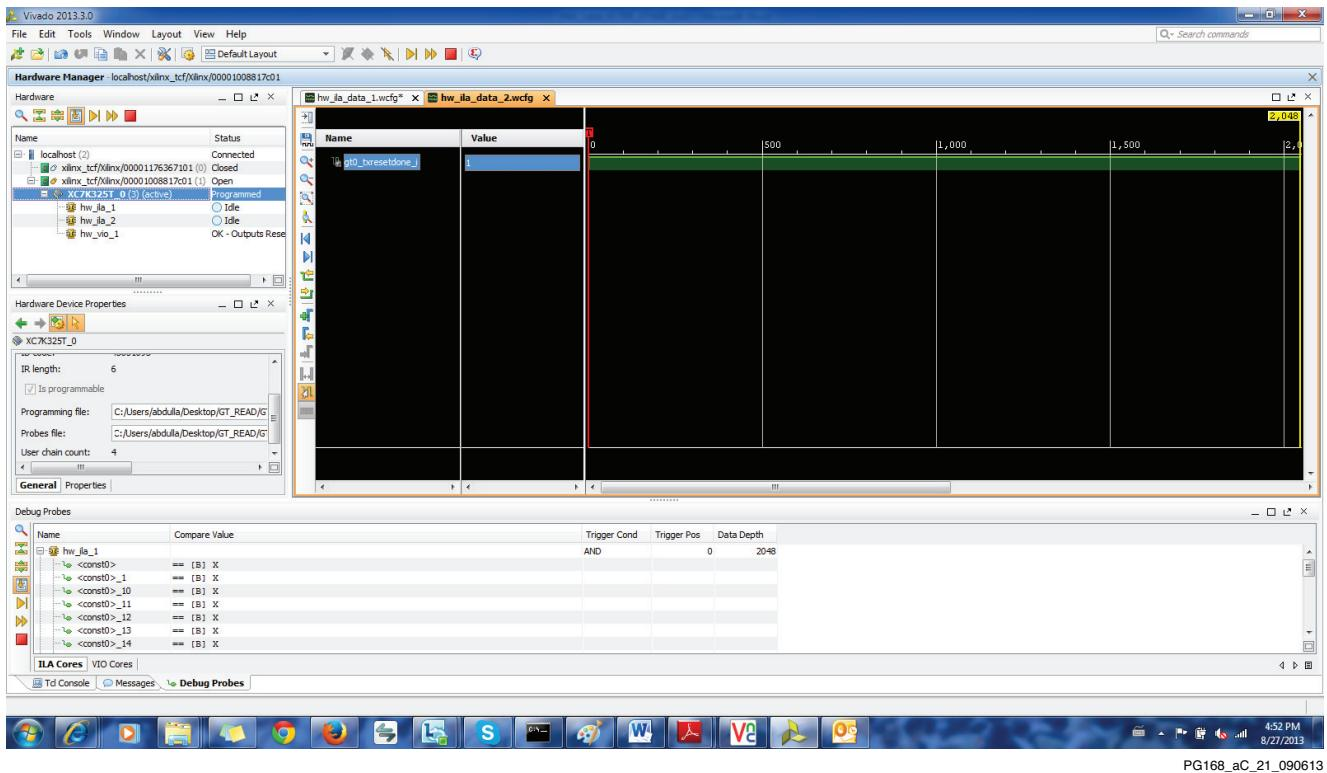

Figure C-21: TX ILA Waveform
- Make sure that the signal has the following value as shown in the TX ILA waveform window (Figure C-21):